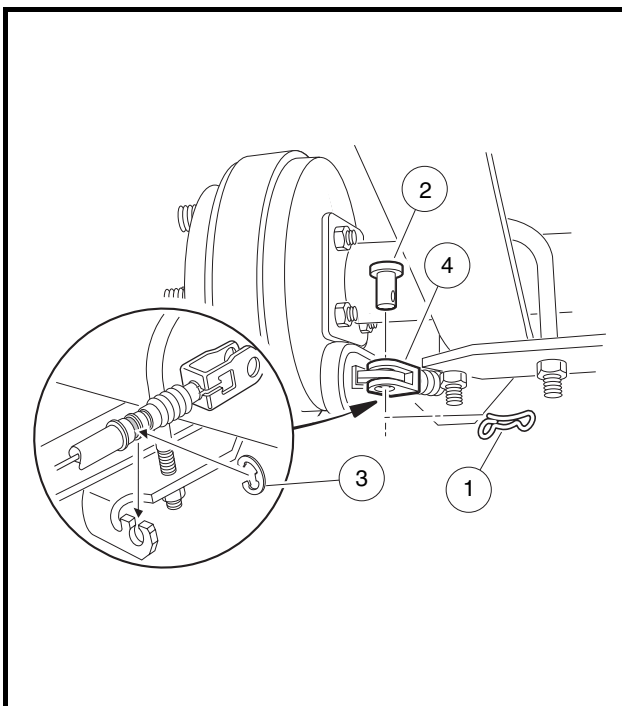

Figure 19-19 Brake Cable (Rear View)
5.1. Remove bow tie pins (1), brake cable clevis pins (2), and E-clips (3) (Figure 19-19, Page 19-9).
5.2. Remove the cable from the cable support bracket (Figure 19-19, Page 19-9).